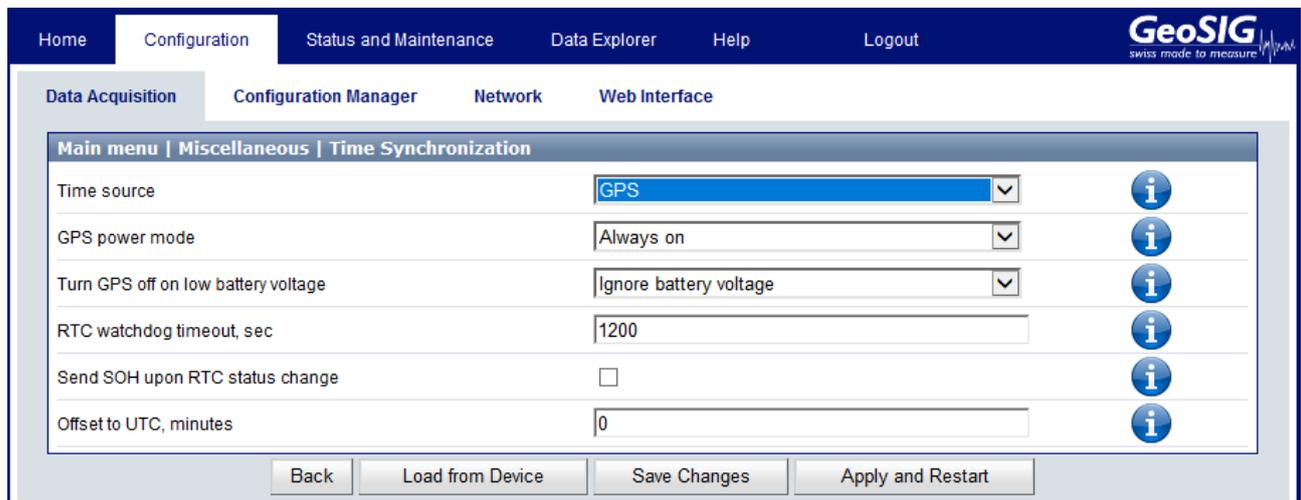

Figure 32: Time Synchronisation menu
- In Time synchronisation menu shown in Figure 32, change the **Time source** to GPS